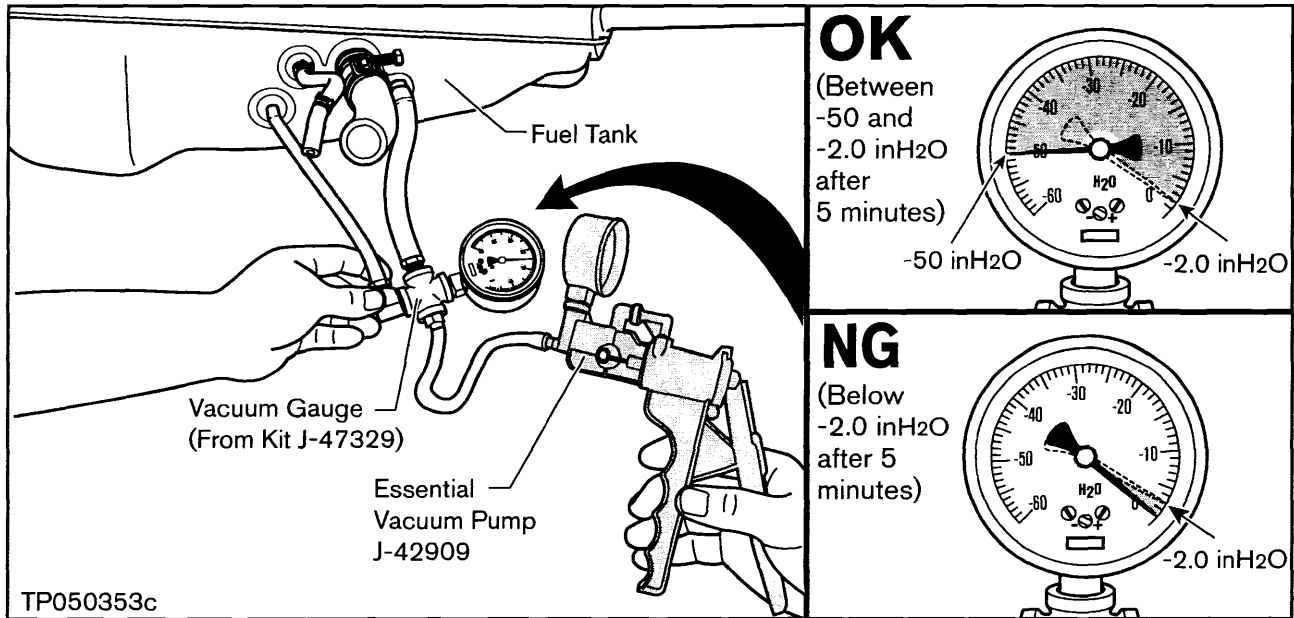

Figure 17
15. Connect the Vacuum Gauge to the Fuel Tank as shown in Figure 17. Then apply $-50 \text{ inH}_2\text{O}$ of vacuum to the Fuel Tank and monitor the vacuum for 5 minutes.